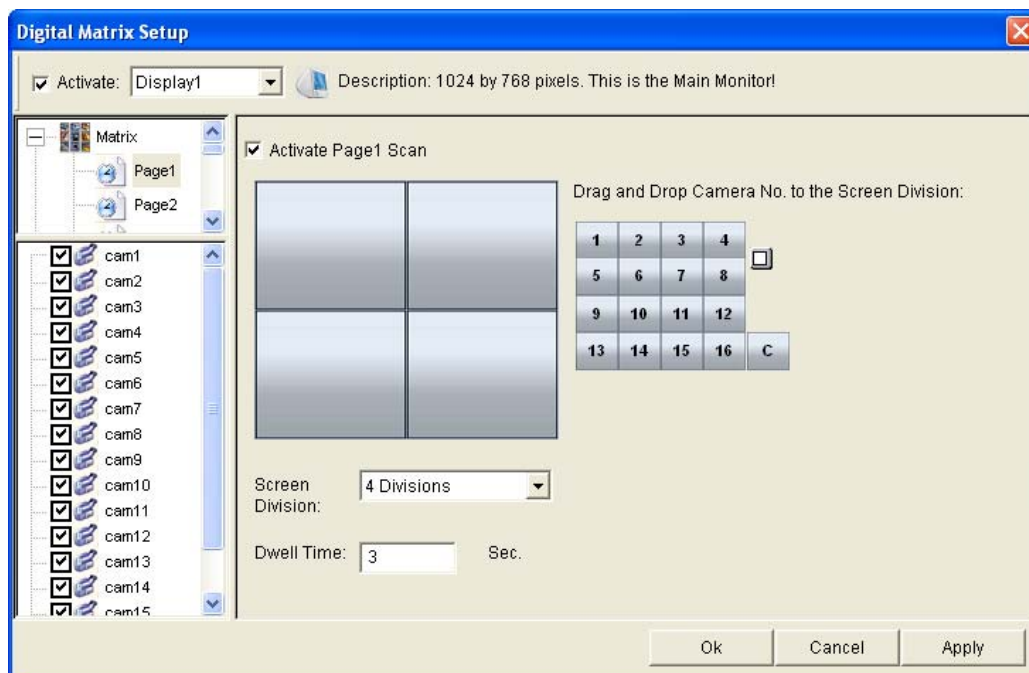

Figure 3-50
4. Click the **Matrix** icon and return to Figure 3-50. Ensure the **Live Mode** option is selected.